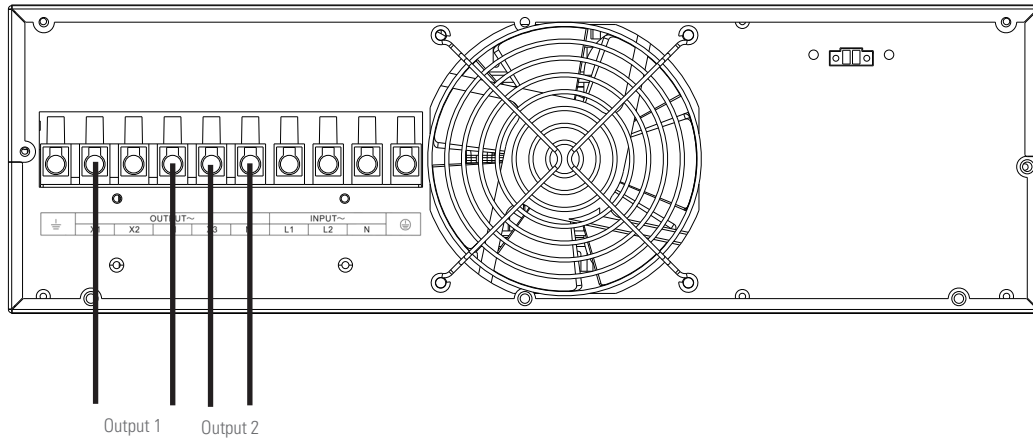
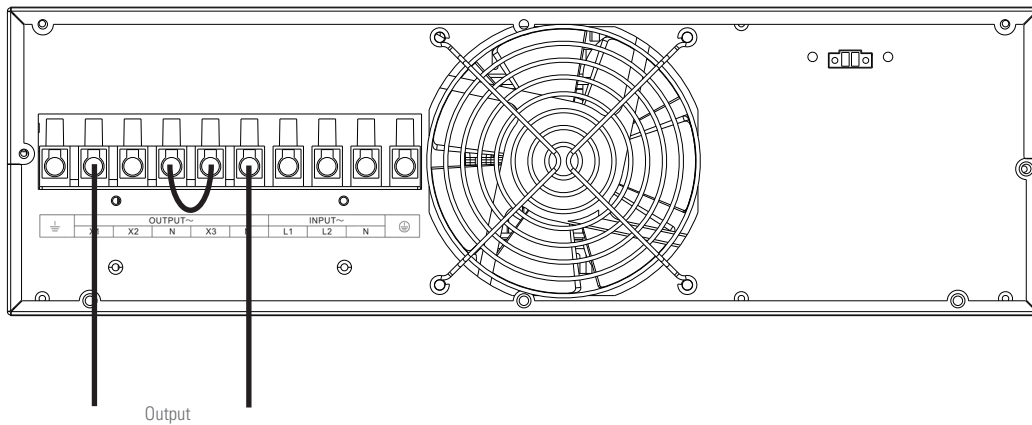

Fig. 17. Connection of 2 independent 120V windings.
Fig. 20. Connection for an output voltage of 240V.
- Connect the loads to the output terminals of the isolation transformer depending on the voltage we want (Fig. 17 to Fig. 20), **respecting the order of the phase and the neutral** indicated on the labelling of the device and in this manual (see Fig. 14). Where there are discrepancies between the labelling and the instructions in this manual, labelling shall always prevail.